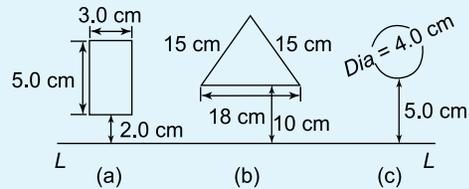

Figure 8.23
- For each of the areas shown in Figure 8.23 determine the second moment of area and radius of gyration about axis *LL*, by using the parallel axis theorem.